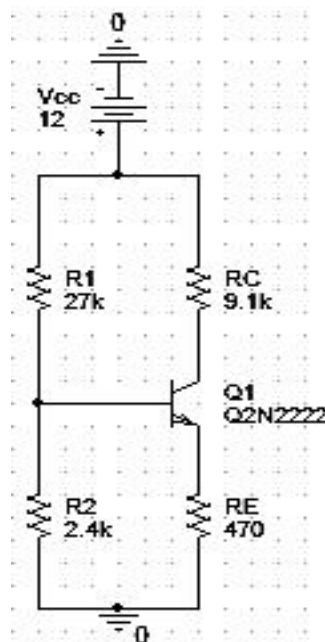

Figure 1: BJT Amplifier DC Circuit
1. Connect the DC circuit as shown in figure 1. In this schematic the biasing is accomplished by the aid of the bias resistor divider, R_1 and